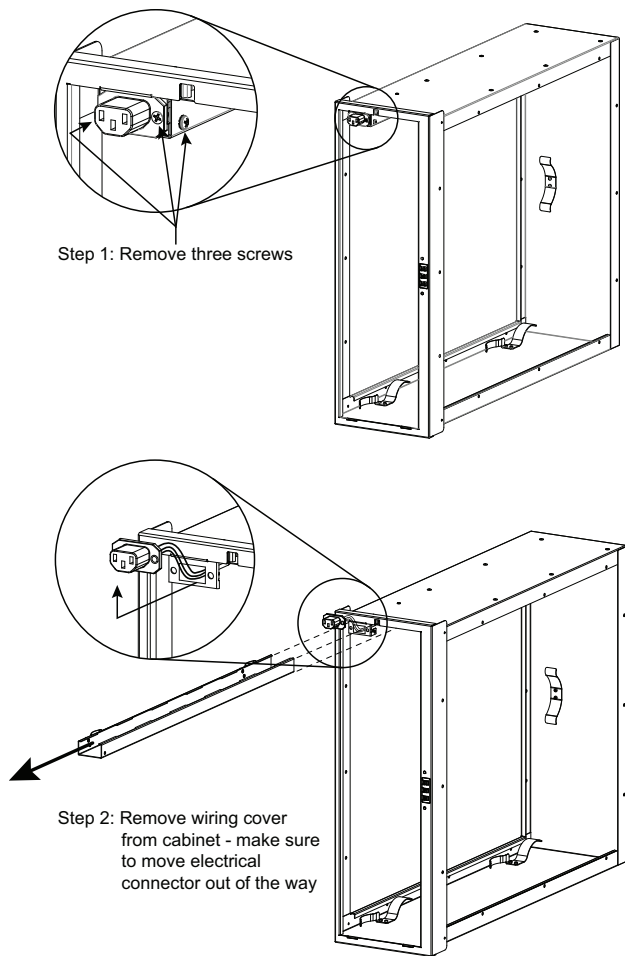

Fig. 9 – Removal of Electrical Tray Cover
7. Mounting holes are provided in the air purifier flanges for ductwork and furnace attachment. To access the mounting holes on the upstream flange of the purifier adjacent to the incoming power wiring, the wiring cover must be temporarily removed. To do so, remove the three screws illustrated in Fig. 9 - Step 1. Gently pull
the power connector approximately one inch out of the way while sliding the wiring cover from the cabinet, as illustrated in Fig. 9 - Step 2. Take care not to disconnect the wires from the back of the power connector as you rotate it out of the way. After mounting the cabinet with the appropriate screws, reinstall the power wire cover in reverse order of disassembly, making sure that the wire connectors remain firmly attached to the back of the electrical connect as you do so.